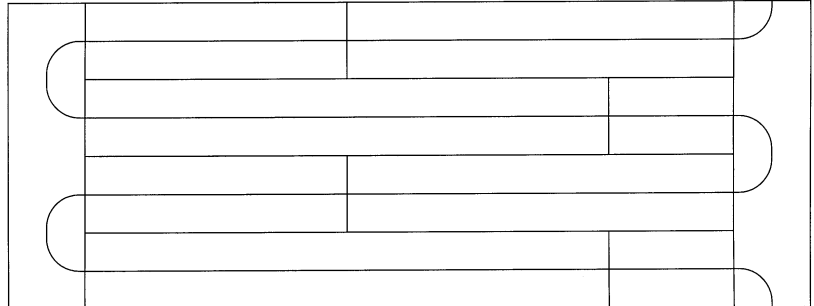

Figure 23: Correct panel placement for serpentine pattern
3. Place the return panels so they align with the grooves in the straight panels. Make sure to maintain a serpentine pattern for proper tubing placement (see **Figures 23 and 24**).